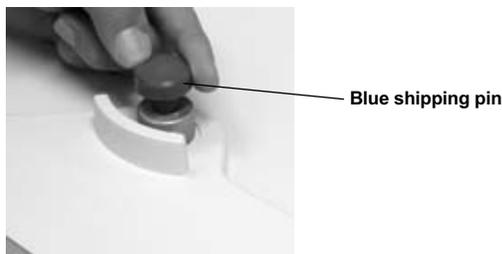

Fig. 9. Remove shipping pin.
3. Unscrew and remove the blue shipping pin (Figure 9).